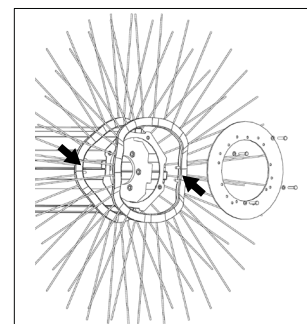

figure 4
- b. Install a second section with drive pins rotated 180° from those on the first section (figure 4).